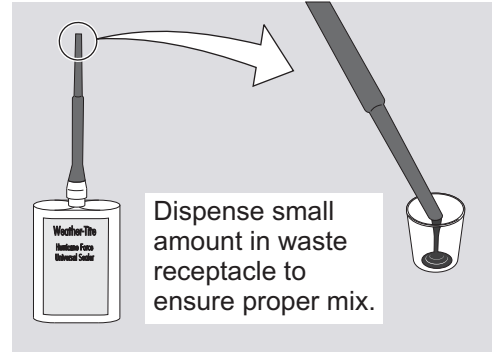

Figure 2-6: Ensuring proper mix of Universal Sealer
- H. Ensure a proper mix of the Weather-Tite Hurricane Force Universal Sealer® by first dispensing a small amount in a waste receptacle. (See Figure 2-6)